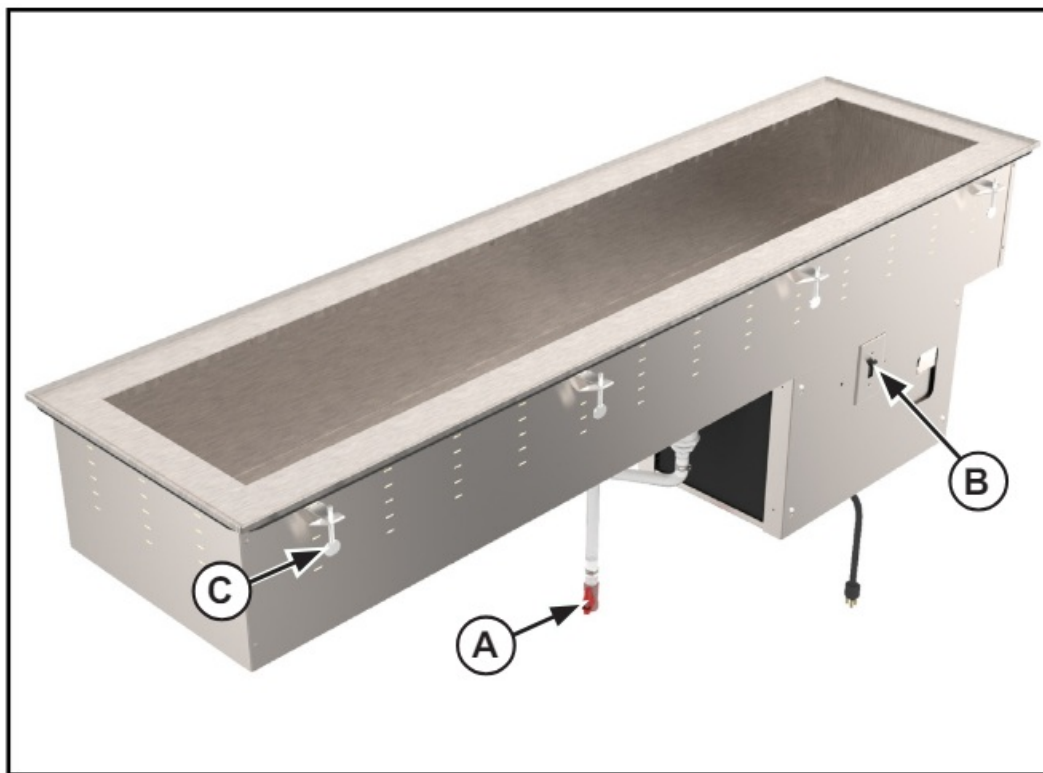

Figure 1. Features and Controls.
- Tighten the thumbscrews (C) slowly and in an alternating pattern to evenly compress the gasket. See Figure 1. The gasket should create a even gap between the well and the mounting surface.
1. Check the drain valve (A) to verify it is in the CLOSED position to prevent water from draining out. See Figure 1. The valve is in the CLOSED position when the handle of the valve forms a “T” with the body of the valve.
3. Turn the power switch (B) to the “ON” position. This unit does not have an adjustable temperature setting. Allow the unit to run for approximately 30 minutes. For the best performance when using ice with this unit, allow unit to run for approximately 2 hours before adding ice. This will help the ice remain solid.